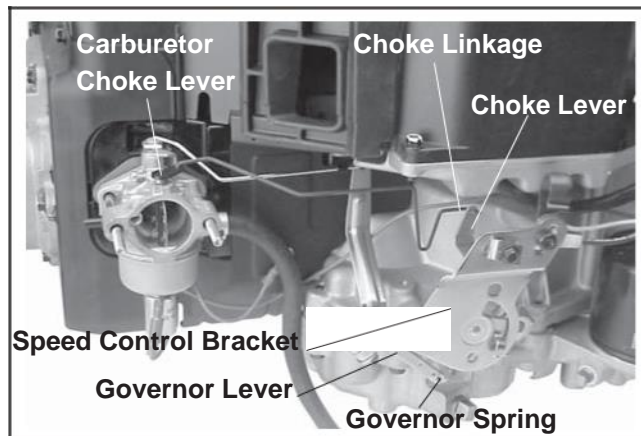

Figure 11-64. Installing Choke Linkage and Speed Control Bracket.
7. Connect the long end of the choke linkage to the carburetor choke lever. See Figure 11-64.
10. Install the governor spring in the appropriate hole in the governor arm, and through the hole/ slot in the throttle lever on the governor bracket assembly. See Figure 11-64. Refer to Section 5 for correct hole use/spring installation.